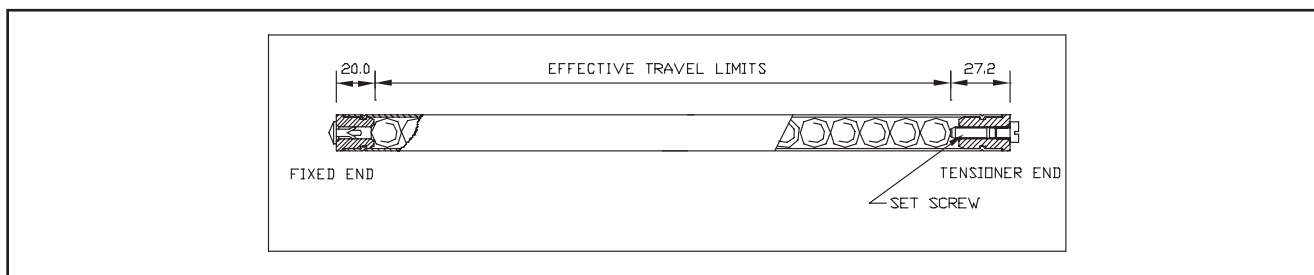

Figure 6.1 - DSG Scale
- (A) Erroneous readings will occur if the *Digital Reader Head* is allowed to travel beyond the Effective Travel Limits. (Refer to Figure 6.1)
- (B) The pre-load on the balls are factory set via the set screw at the tensioner end. Do not tamper with or adjust the set screw as this will alter the calibration and accuracy specification of the scale. (Refer to Figure 6.1)
- (C) When mounting scales in the vertical plane the tensioner end should be positioned at the top.